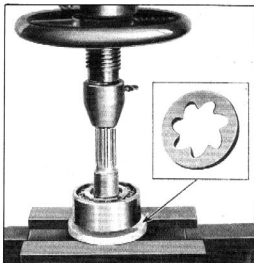

Fig. 23—Removing Front Pinion Bearing
3. Install the front pinion bearing remover J-1439 for 6-tooth pinions, J-1440 for 7-tooth pinions, over the pinion teeth and against the inner race of the double row bearing. Then press the bearing off the pinion shaft, Fig. 23.